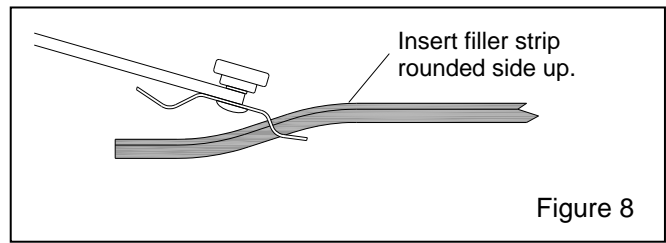

Figure 8
9. Wipe, or spray the filler strip with silicone lubricant to reduce friction. Insert about 2-inches of the strip into the installation tool, as shown in Figure 8.